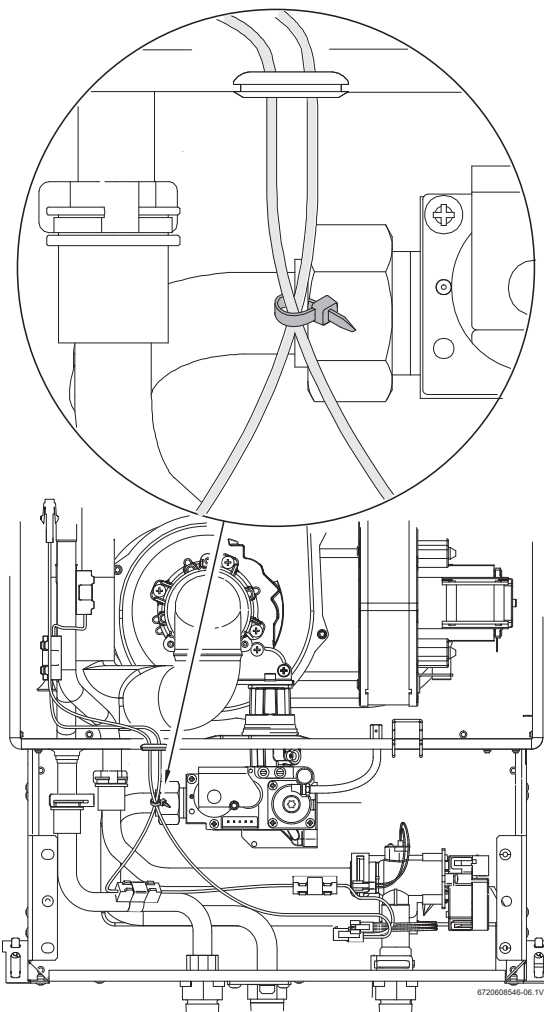

Fig. 6 Fixing cable with plastic tie
- ▶ Avoid loosening the cable is pinched, especially on critical position, as indicated on Fig. 6. If yes, replace the anti-freeze kit.